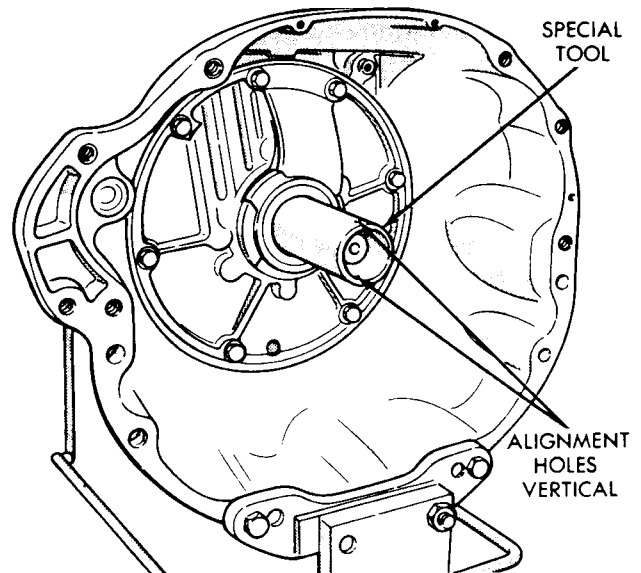

Fig. 33—Align Pump Inner Gear Lugs
(1) Rotate pump gears with Tool C-3756 until the two small holes in handle are vertical (Fig. 33).
(2) Carefully slide torque converter assembly over input shaft and reaction shaft. Make sure torque converter hub slots are also vertical and fully engage pump inner gear lugs.